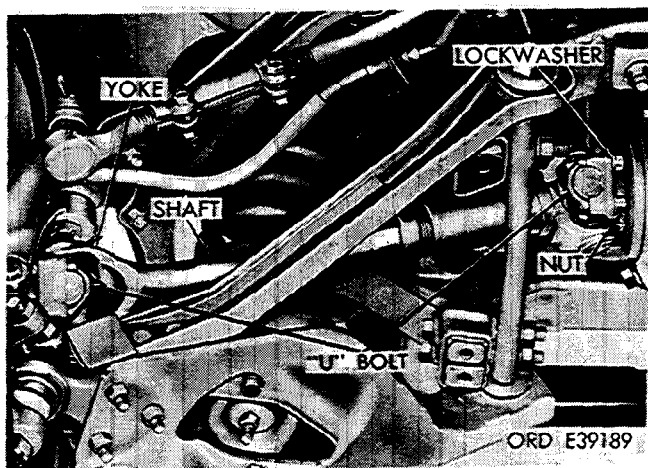

Figure 2-301. Remove front wheel drive shaft.
*a. Removal* (fig. 2-301). Raise front of vehicle. Remove eight nuts and lockwashers from four "U" bolts. Slide drive shaft universal joint yoke toward wheel and remove shaft.
*b. Installation* (fig. 2-301, and reverse procedure). Slip joint end of shaft must be installed toward differential.